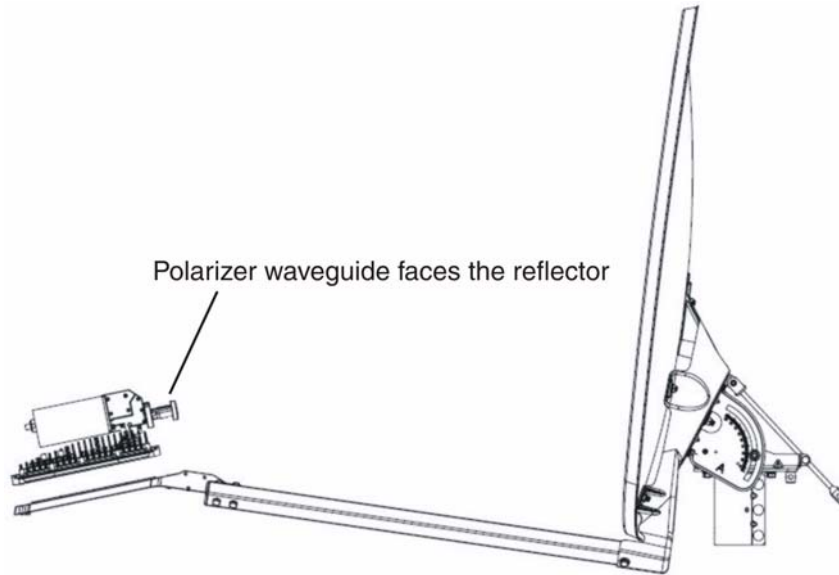

Figure 17: Positioning the radio
1. Position the radio assembly above the tailpiece so that the waveguide end of the radio is nearest to the reflector, as shown in Figure 17.